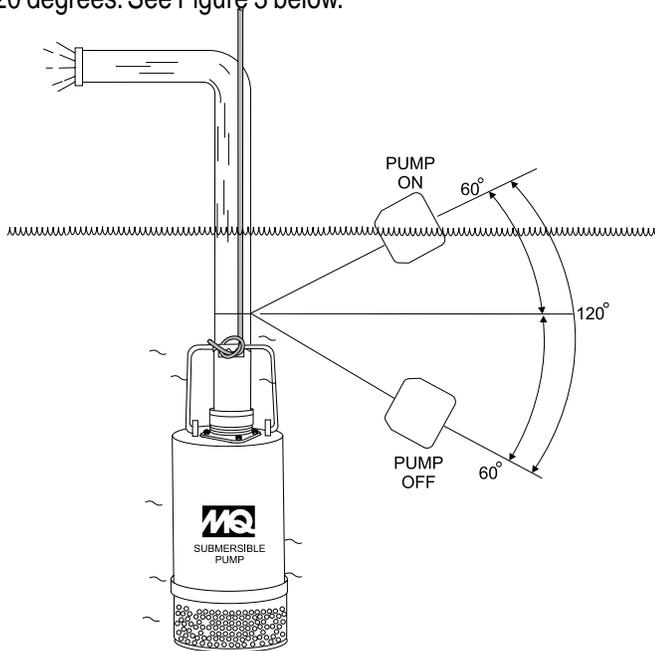
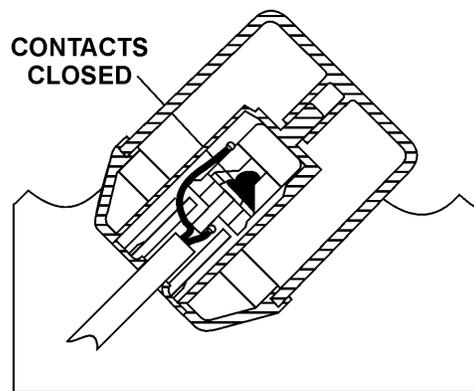
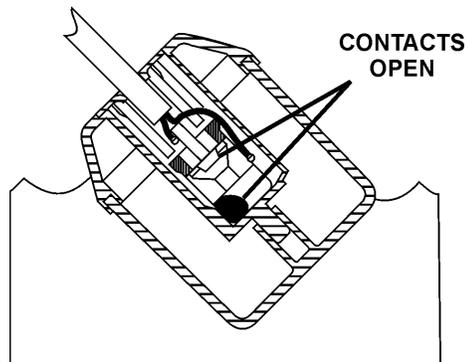

Figure 3. Pumping Range (Float Switch)
Figure 4. Float Switch (Closed)
Figure 5. Float Switch (Open)
There is a tilt-sensitive mercury switch hermetically sealed within each float. As the liquid level (water) rises or falls, the float changes its angle until the mercury switch makes (closed, Figure 4) or breaks (open, Figure 5) the circuit. Maximum pumping range is 120 degrees. See Figure 3 below.
3. Secure the clamp to the discharge hose as shown in Figure 5. **DO NOT** install cord under hose clamp.
3. Determine the length of the float switch wires, then secure float switch wires to pump discharge hose. See Figures 3 and 6 and Table 3 to determine the pumping range.